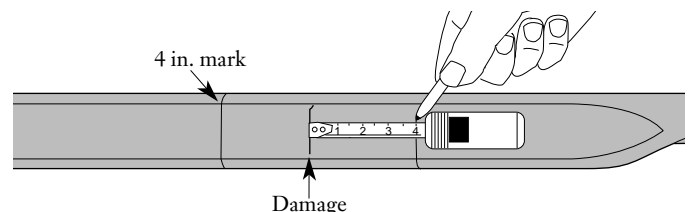

Figure 2
4.2 Measure and mark 4 inches (10 cm) from both sides of the center of the damaged area (Figure 2).